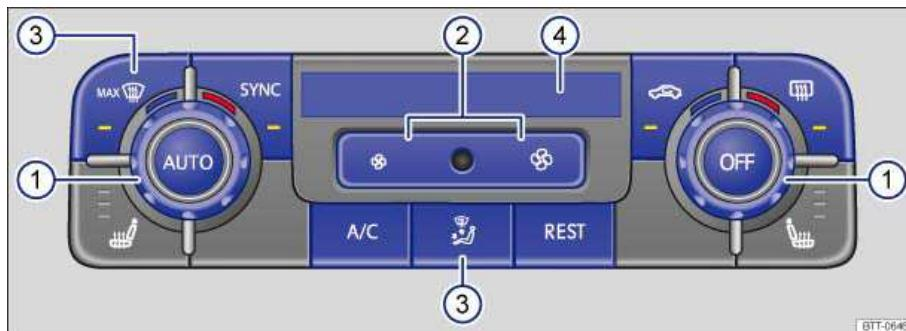

Fig. 301 In the front center console: Climatronic controls.
Press the corresponding button to switch a feature on or off. The respective button needs to be pushed several times for adjustable functions. The indicator lights in the buttons and the information shown in the Climatronic control display \Rightarrow fig. 301 (4) and on the Infotainment System screen provide feedback on the activation of the selected functions.
Button/Knob	More information. Front Climatronic controls \Rightarrow fig. 301.
Button/Knob	More information. Front Climatronic controls ⇒ fig. 301.